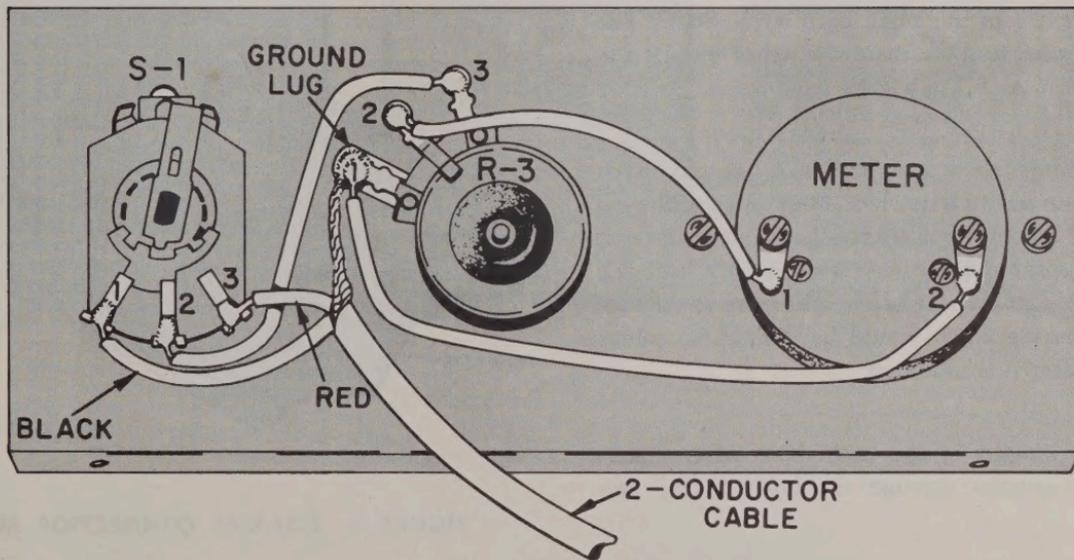

FIGURE 4. WIRING THE METER SUB-PANEL
SEE FIGURE 4.
- The free end of the 2-conductor cable from the meter unit. Place a bushing on the cable 2'' from the end. Fasten the cable to the pick-up chassis as shown in Figure 4.